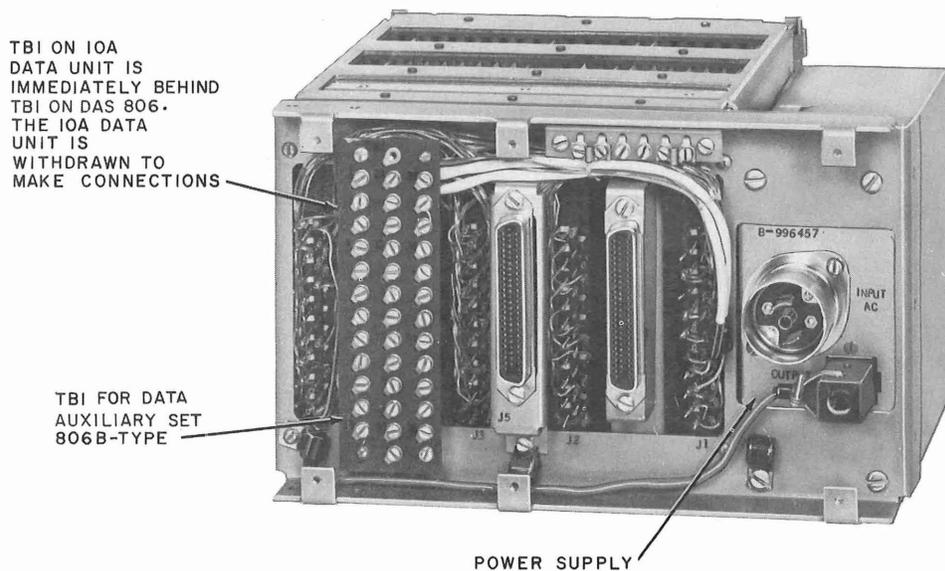

Fig. 10—Option Board on Data Auxiliary Set 806B7
3.18 One cable which is supplied with DS 303 is required to connect either DAS 806B7 or DAS 806D1 to DS 303. Refer to Table C for connections. The power cable and all external cabling will be fastened as prescribed in this BSP. Refer to Tables D and E for options and telephone line connections when using DAS 806B7. Refer to Tables F and G for options and telephone line connections when using DAS 806D1. Options wired into the sets are made on the specified terminal boards located at the rear of the sets, with the exception of the 10A-type Data Unit in DAS 806. Options pertaining to the 10A-type Data Unit are made on the data unit itself. Figure 10 depicts the option board for DAS 806B7. Figure 11 depicts the option board for DAS 806D1.
Note: See Fig. 10 for location of option terminal boards on DAS 806B7.